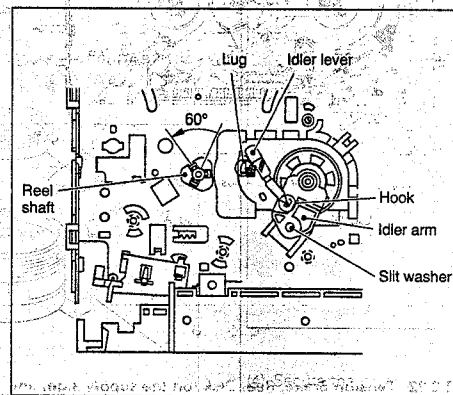

Fig. 2-2-35
- (1) Remove one lug of the idler lever from the main deck and remove the hook fitted in the idler arm hole by lifting it.
- (2) Remove the slit washer and pull out the idler arm.
- (3) Turn the reel shaft counterclockwise through 60 degrees and remove it. (See Fig. 2-2-35)